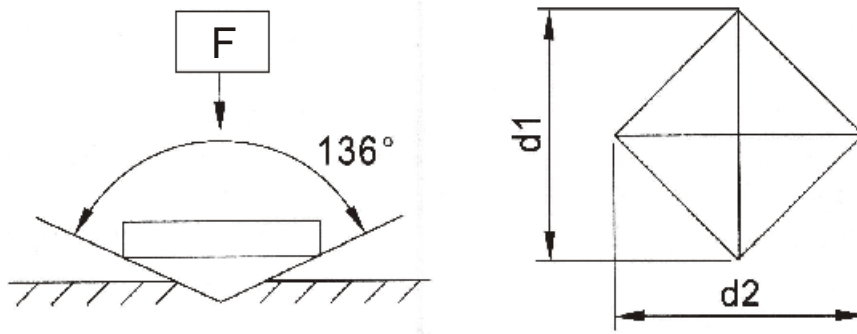

Fig. 5
4.1 The test method of Vickers hardness is to press a positive four-pronged conical diamond indenter with an angle of 136° on the opposite side into the surface of the specimen with a selected test force, and after a specified holding time (the holding time of the test force is 10–15 seconds), remove the test force, and then measure the lengths of the two diagonal lines of the indentation, d_1 and d_2 , to obtain the hardness value by means of a digital microprobe (Fig. 5).